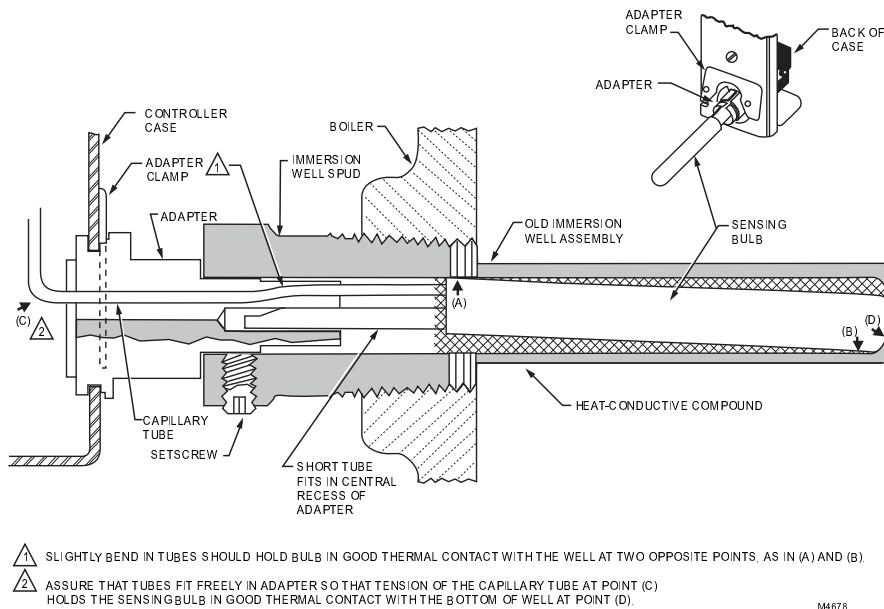

Fig. 2. Bulb in immersion well and use of adapter.
2. Slide the adapter onto the capillary and short tube; see Fig. 2 inset.
4. Insert the bulb into the well, as shown in Fig. 2. If necessary, use the heat-conductive compound as instructed in the IMPORTANT statement on page 1.
5. Insert the sensing bulb into the well until it bottoms as show in Fig. 2. Add heat-conductive compound, if necessary, as instructed in the IMPORTANT statement on page 1.